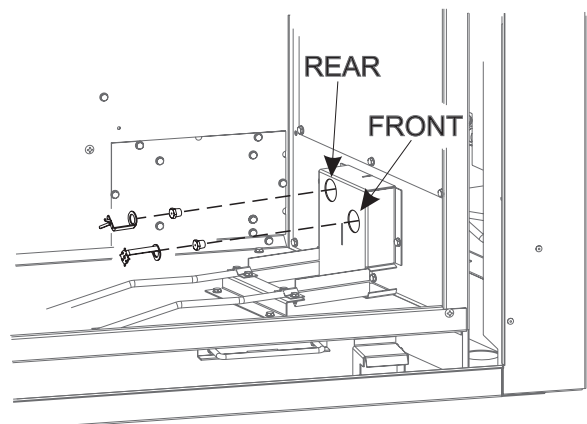

Figure 6
7. Locate the orifice marked "2.45." Use a 7/16 inch deep socket set to install orifice marked "2.45" onto rear orifice holder. Use needle-nose pliers, screw rear target onto rear orifice holder. (Figure 6)
8. Locate the orifice marked "2.25." Use a 7/16 inch deep socket set to install orifice marked "2.25" onto front orifice holder. Use needle-nose pliers to screw front target onto orifice holder. (Figure 6)